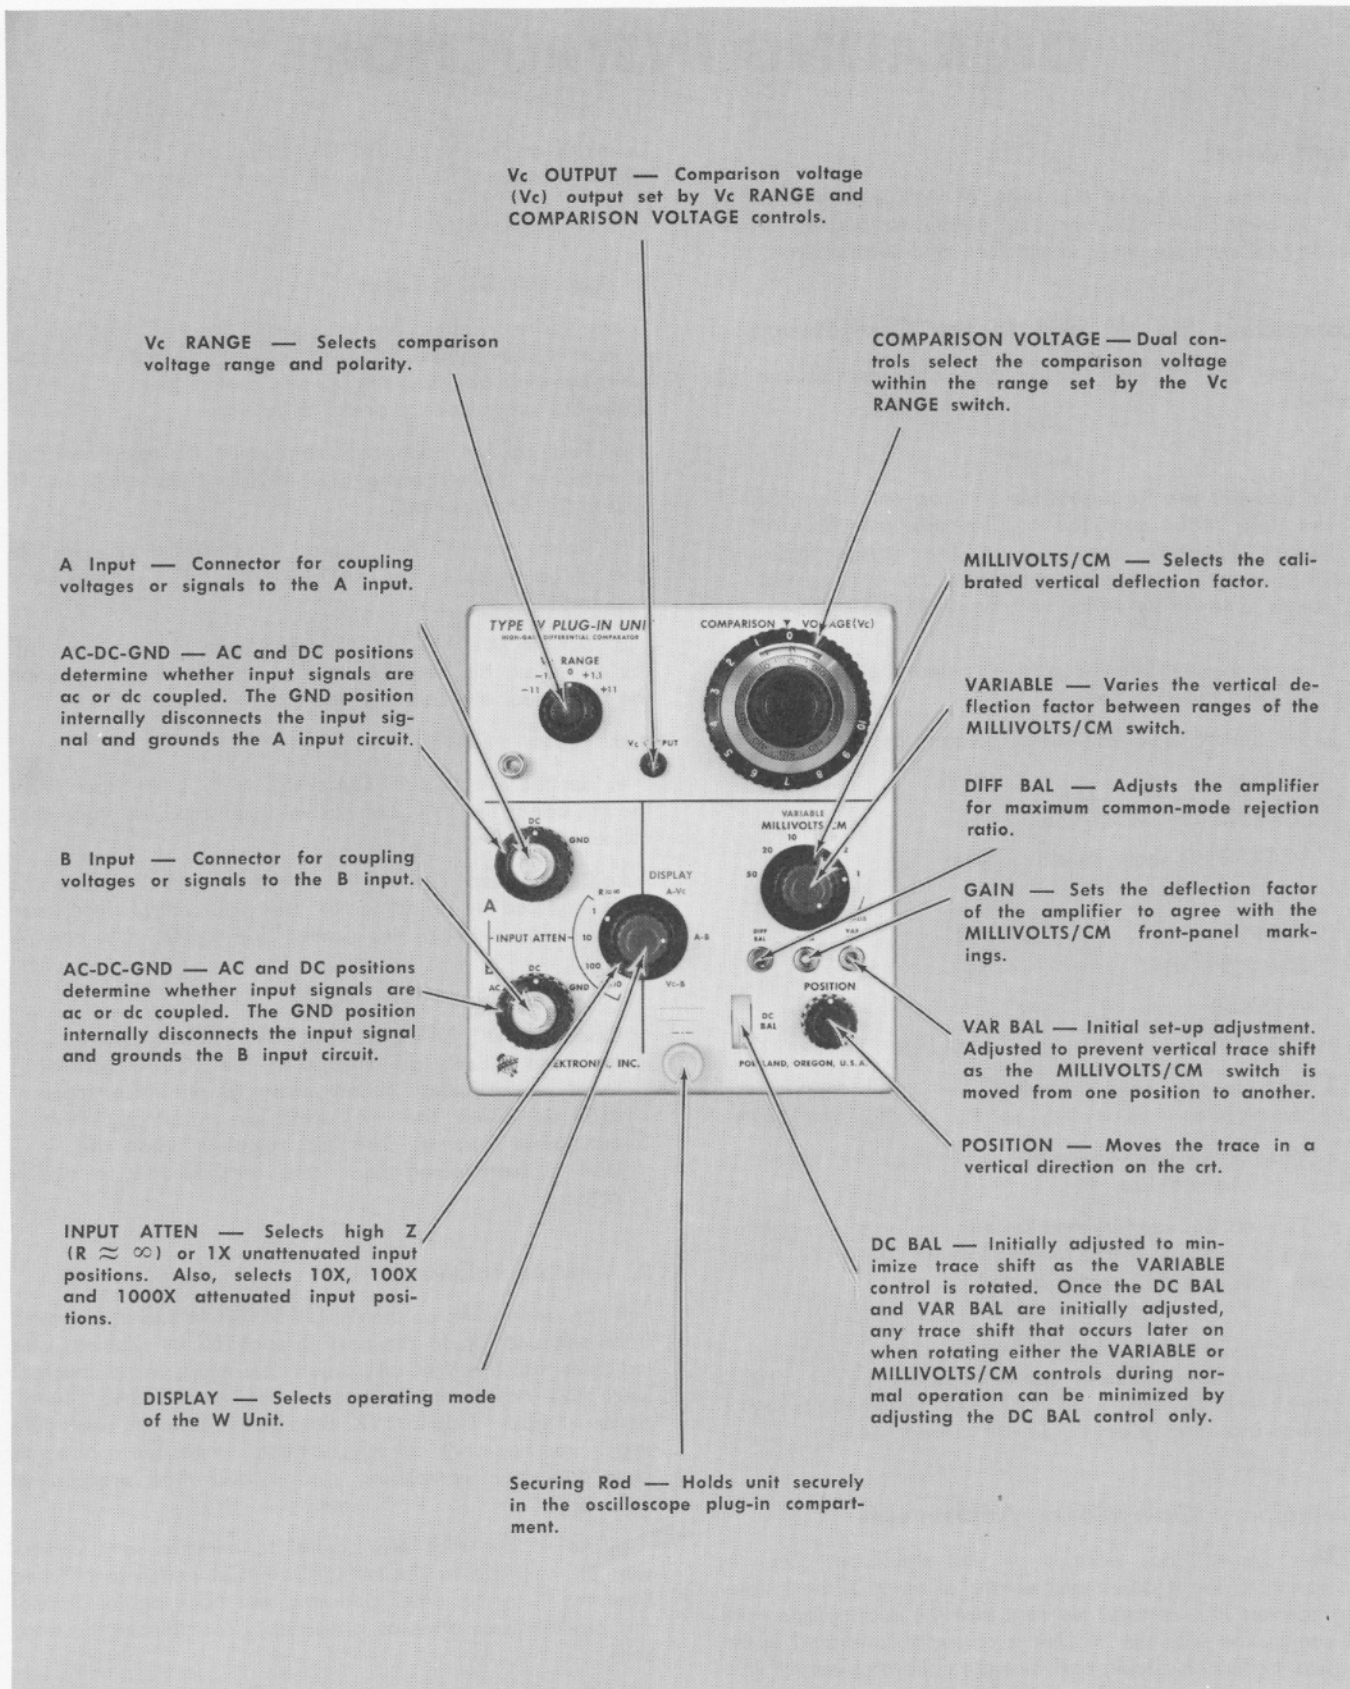

Fig. 2-1. Functions of front-panel controls, input connectors, and Securing Rod.
A front-panel view of the Type W Unit is shown in Fig. 2-1. In addition, a brief functional description is given of the front-panel controls, input connectors, and securing rod.
Any vertical shift of the trace when the VARIABLE control is rotated with the AC-DC-GND switches set to GND, indicates need for adjusting the DC BAL control (see Fig. 2-1). To make this adjustment, proceed as follows:
c. Set the MILLIVOLTS/CM switch to 5. If the trace is off the crt, adjust the VAR BAL control (see Fig. 2-1) to position the trace near the center of the crt.
The GAIN adjustment (see Fig. 2-1) should be checked periodically to assure correct vertical deflection factors. The adjustment can be made using the oscilloscope calibrator as the signal source. If greater accuracy is needed, a signal source with more precise amplitude accuracy can be used.
- c. Ignoring the positive and negative spikes, adjust the DIFF BAL control (see Fig. 2-1) to eliminate any square-wave response; that is, to obtain a straight-line appearance of the trace.